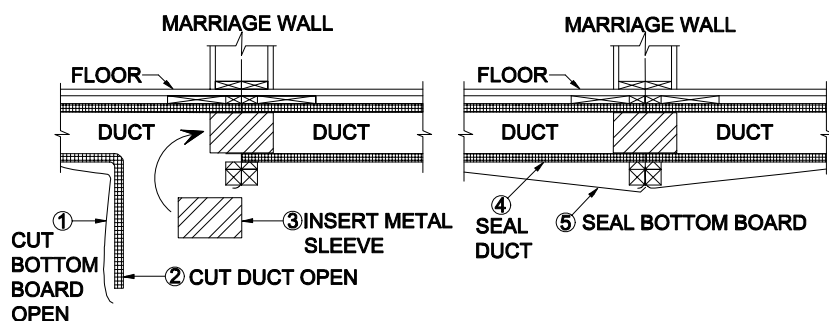

Figure 37. In-floor duct with crossover using metal sleeve
Join duct board ducts with a metal sleeve as follows (Figure 37):
2. **Open duct.** Create an opening in the duct by cutting the duct board as shown in Figure 37.